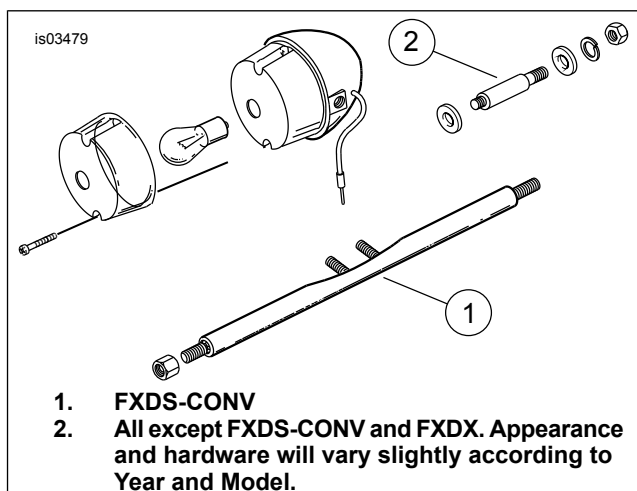

Figure 5. All (Typical Tube-Style Supports)
For XL models equipped with Tube-Style Supports, See Figure 5 for installation instructions.
For Dyna Models equipped with Tube-Style Supports, See Figure 5 for installation instructions.
For Softtail models equipped with Tube-Style Supports, See Figure 5 for installation instructions.
3. See Figure 5. Remove lamp housing from turn signal support. Save hardware. Discard lamp.